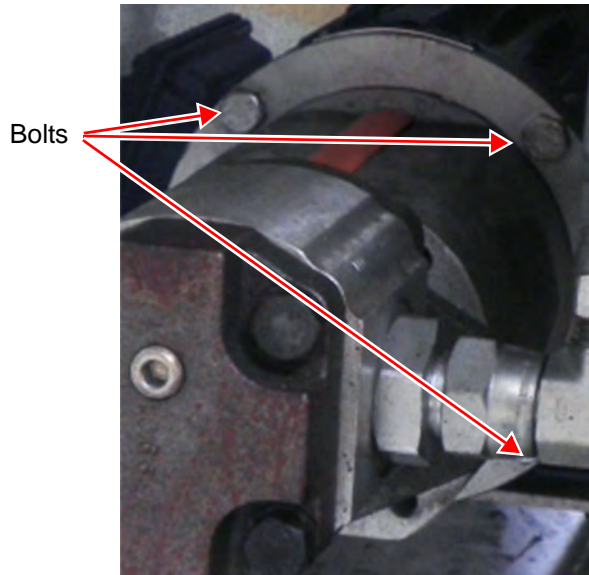

Figure 5: Coupler bolts (One not pictured)
2. Remove the four bolts holding the coupler to the pump (Figure 5).